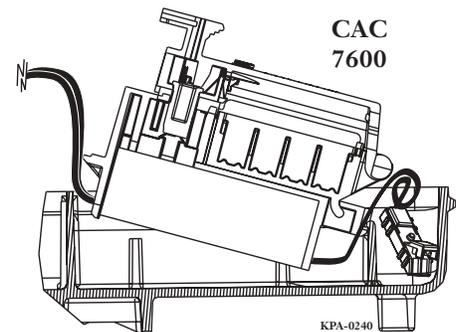

Figure 2
**Step 3** **CAC 7600:** Insert the foot of the sealed line module under the captive tab where in the position where the DSL service will be connected (Figure 2). Snap the module into the base of the NID.
**Step 4** Thread the line module lead wires through the slot between the subscriber and telco sides of the NID (Figures 2 and 3).